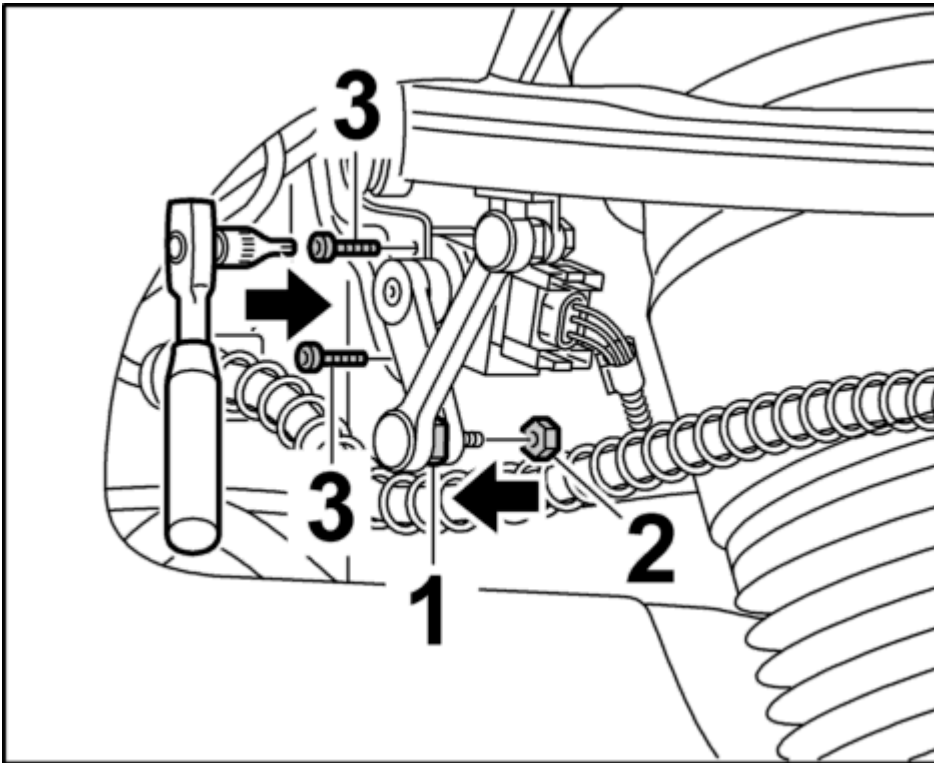

Fig. 12: Engaging lever of self-levelling sensor and positioning sensor
2. Tighten fastening screws -3- --> **43 TW Tightening torques - as of MY 2003 (Cayenne TIP, Cayenne MAN, Cayenne S TIP, Cayenne S MAN, Cayenne Turbo)**. See **Fig. 12**.
4. Position the fastening nut -2- , counter with an open-ended wrench on the two flats -1- and tighten the nut --> **43 TW Tightening torques - as of MY 2003 (Cayenne TIP, Cayenne MAN, Cayenne S TIP, Cayenne S MAN, Cayenne Turbo)**. See **Fig. 12**.